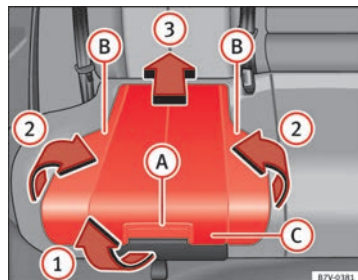

Fig. 29 Integrated child seats, lift up the cushion
- Pull the unlock lever \Rightarrow Fig. 29 **A** on the cushion in the direction of the arrow **1**.